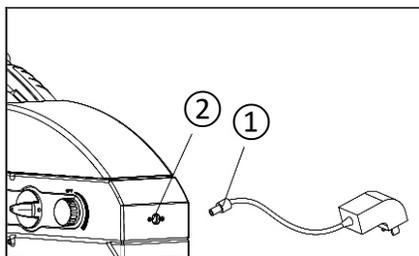

Fig. 24
To connect the external transformer power supply, insert the one end of the transformer (1) into the LED fluorescence illuminator socket (2). Insert the other end into an electrical outlet. (Fig. 24)